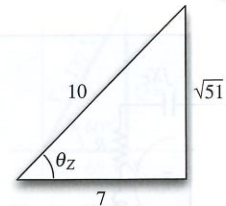

Figure 7.24 Relative dimensions of power triangle
1. For the load alone, $\text{pf} = 0.7$ lagging or $\cos(\theta_Z) = 7/10$, and the power triangle has the shape shown in Figure 7.24. The real power is given as $P = 100 \text{ kW}$, so the reactive power of the load can be computed using the relative triangle dimensions to be: